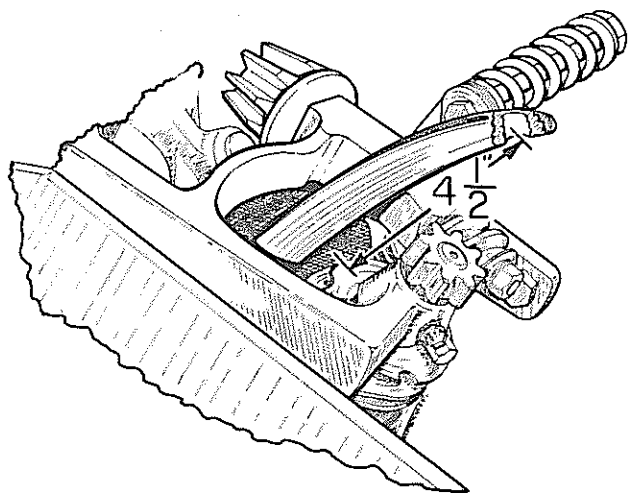

Fig. 19
4. Use the manual control to advance the needles to the uppermost position. The distance from the bottom of the needle eye to the twine disc should be $4\frac{1}{2}$ inches, see **Fig. 19**.